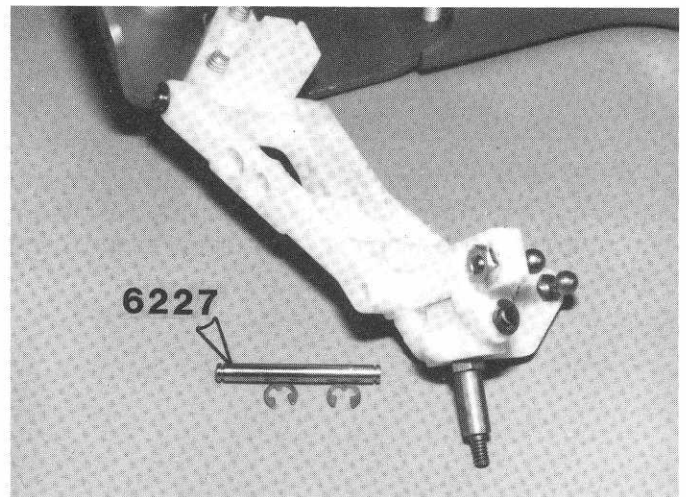

**Fig. 12**
□ **Figs. 12 & 12a** Line up the steering block in the block carrier, as shown, and push the #6223 king pin through. Now, install "E" clips on the top and bottom ends of the pin. If you run out of "E" clips, there are extras in the shock bags. Install the R.H. steering block.